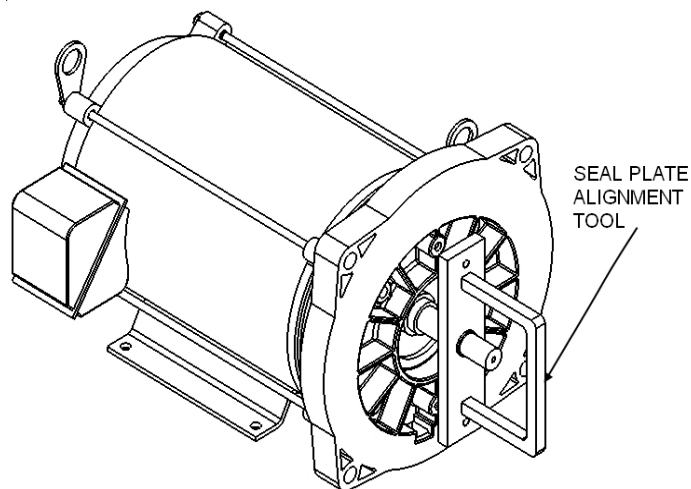

Figure 2
2. Place the alignment tool over the motor shaft (Figure 2).